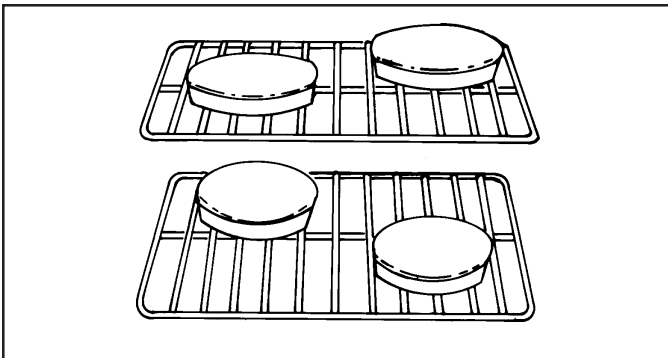

Figure 34
- See Figure 34. Stagger pans placed on different racks so one is not directly over the other.